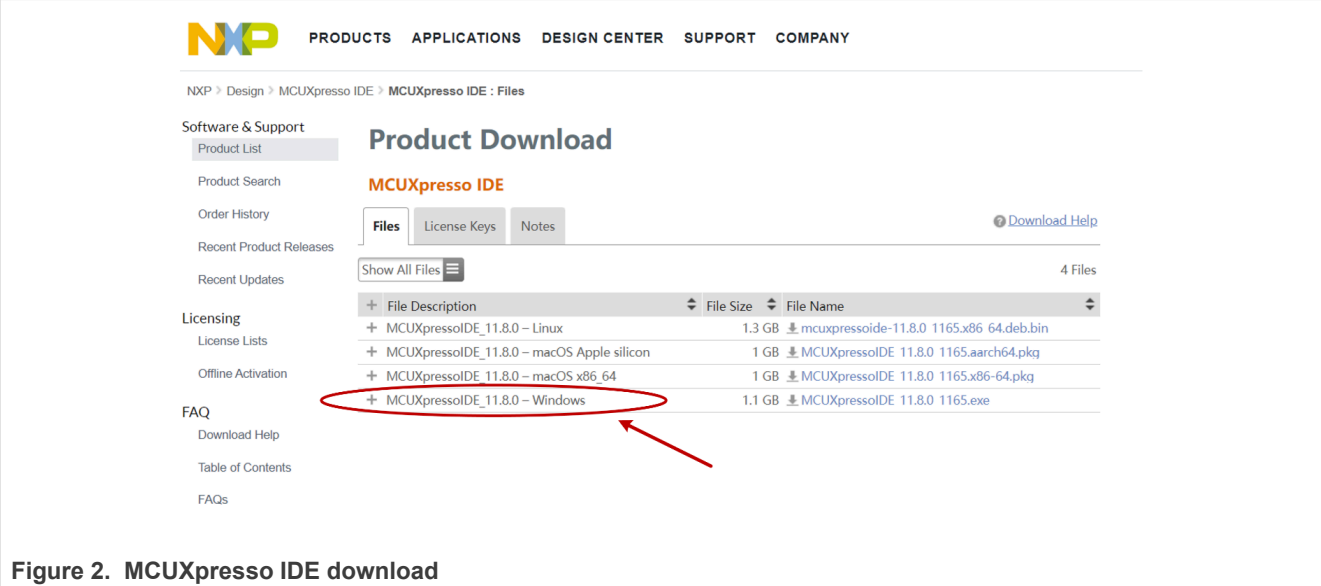

Figure 2. MCUXpresso IDE download
1. Download MCUXpresso IDE, and select the Windows version to download, as shown in Figure 2